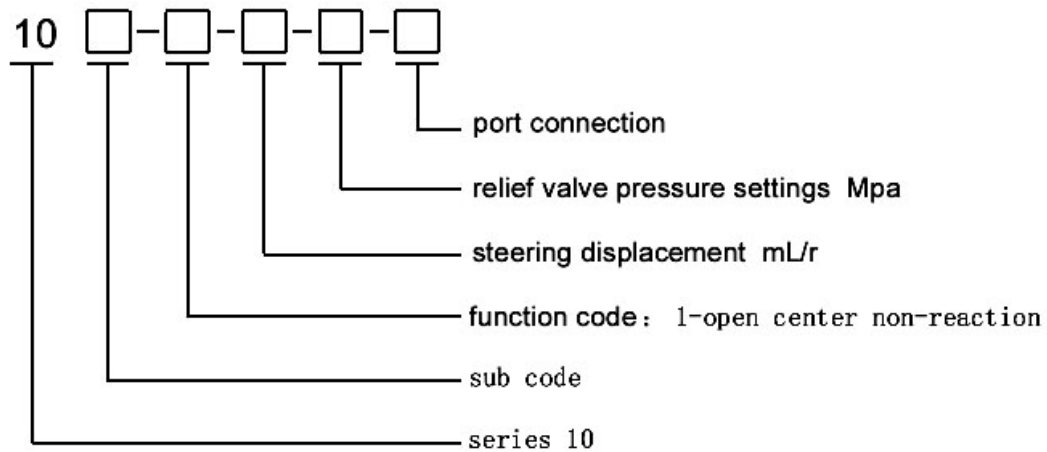

FIG 6-10 Model code
6.6.2 Adjustment of side reduction gear pair (fig.6-10)
Fig. 6-10 final drive of front driving axle
1、 Model Code (fig. 6-10)